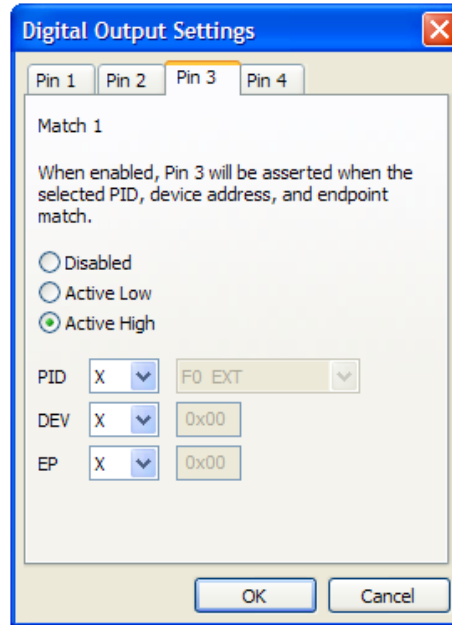

Figure 37: Digital Output Pin 3 Tab
Digital output pin 3 (Figure 37) can be set to match a PID, a device address, and an endpoint address. For example, pin 3 can go active when it observes a DATA0 packet to any device but 0x01 on any endpoint address. Each of the match settings can be set to match if the packet equals the parameter (=), does not equal the parameter (!=), or it can disregard the parameter (X). Pin 3 can also be set to be active high, active low, or to be disabled.